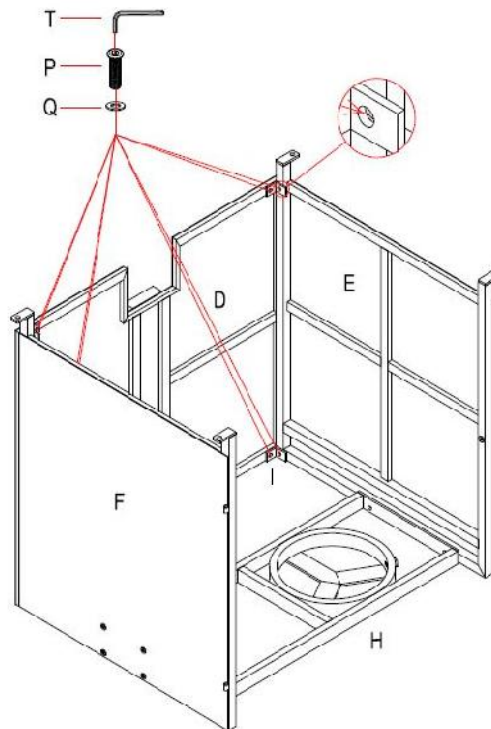

Figure 3
3. Attach the Back panel (D) to Right panel (E) and Left panel (F) with Connectors (I) and Bolt (P) and Washer (Q) by using the Hex screw driver (T), see Figure 3.